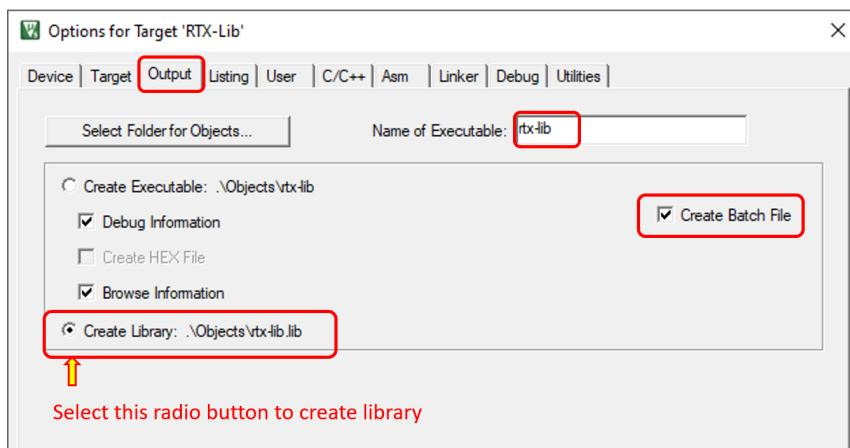

Figure 7.43: Keil IDE: Target Options Output Tab Library Creation Configuration
3. The most important step is to configure the output to be a library as shown in Figure 7.43